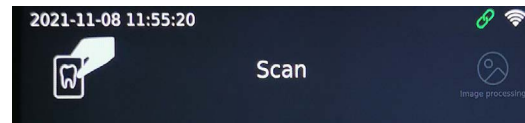

Figure 15
- e) Open the software, click the Acquisition button, and select the Duray Scanner DC1 device type. After connecting the device, the IP address will be displayed below the device type. Click open, and the device will enter the acquisition state, and images can be collected, as shown in Figure 15.